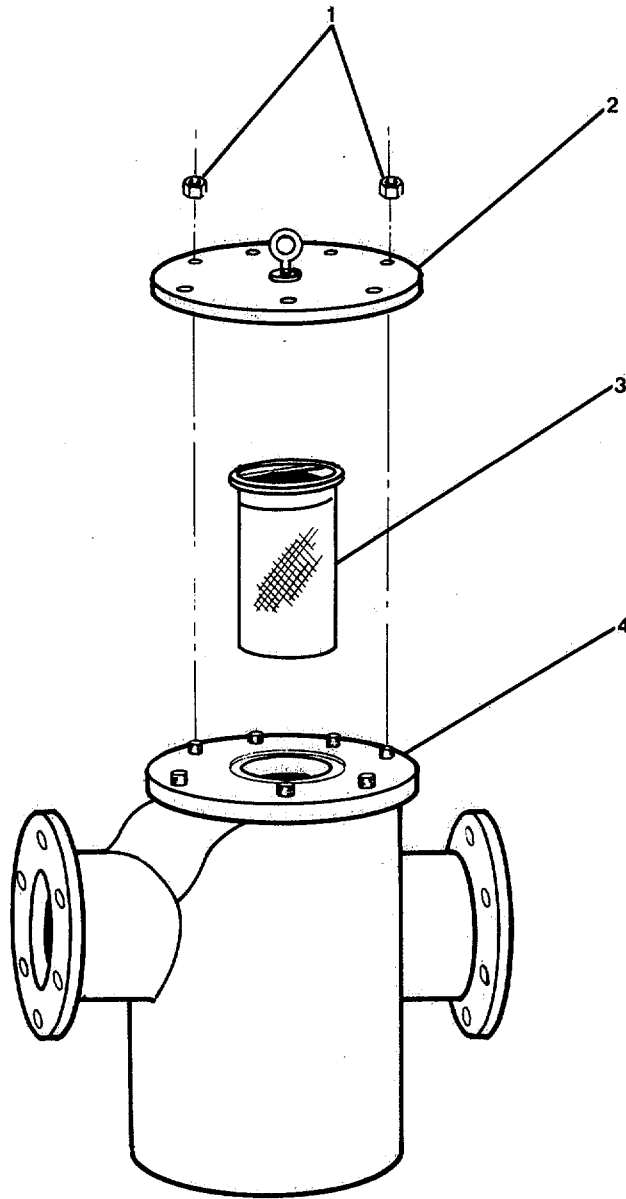

FIGURE 3-199. 8-Inch Simplex Sediment Strainer, Repair.
**3-211. Repair 8-Inch Simplex Sediment Strainer. (Figure 3-199)**